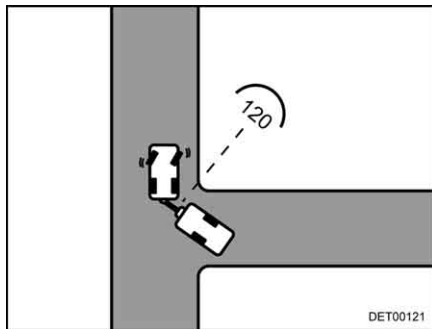

Fig. 18 Approach
- As soon as both vehicles are at an approximate angle of 120° to each other, come to a stop (Fig. 18).